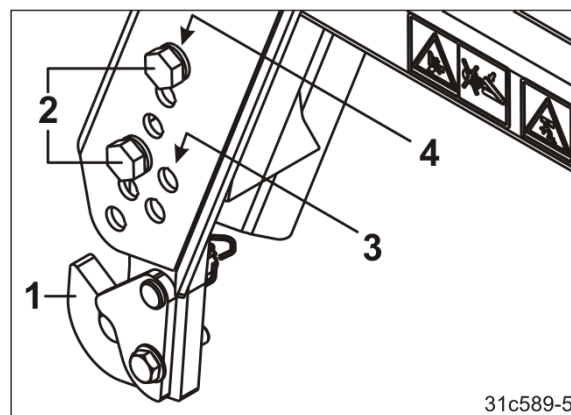

Fig. 107
1. Fasten the catch hooks (Fig. 107/1) to the lifting frame using two screws for each one (Fig. 107/2).
- Holes (Fig. 107/3) for small roller diameter
- Holes (Fig. 107/4) for large roller diameter.